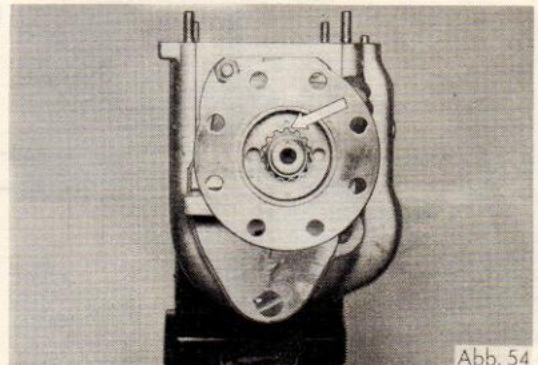

Abb. 54
48. Fit driving flange in mainshaft in original position marked by centre-punch (Fig. 54). Fit tab washer, screw on nut, tighten and secure.